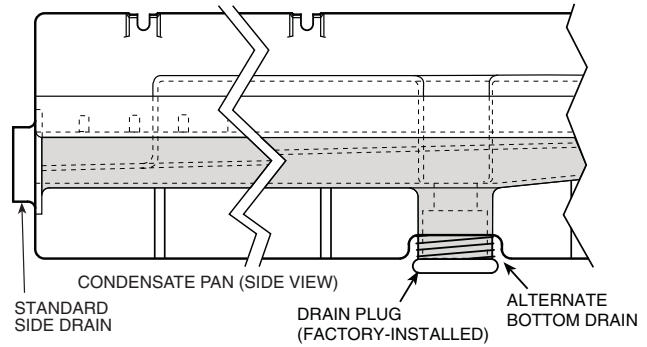

Fig. 21 — Condensate Drain Pan (Side View)
Step 11 — Install External Condensate Trap and Line — The unit has one 3/4-in. condensate drain connection on the end of the condensate pan and an alternate connection on the bottom. See Fig. 21. Unit airflow configuration does not determine which drain connection to use. Either drain connection can be used with vertical or horizontal applications.